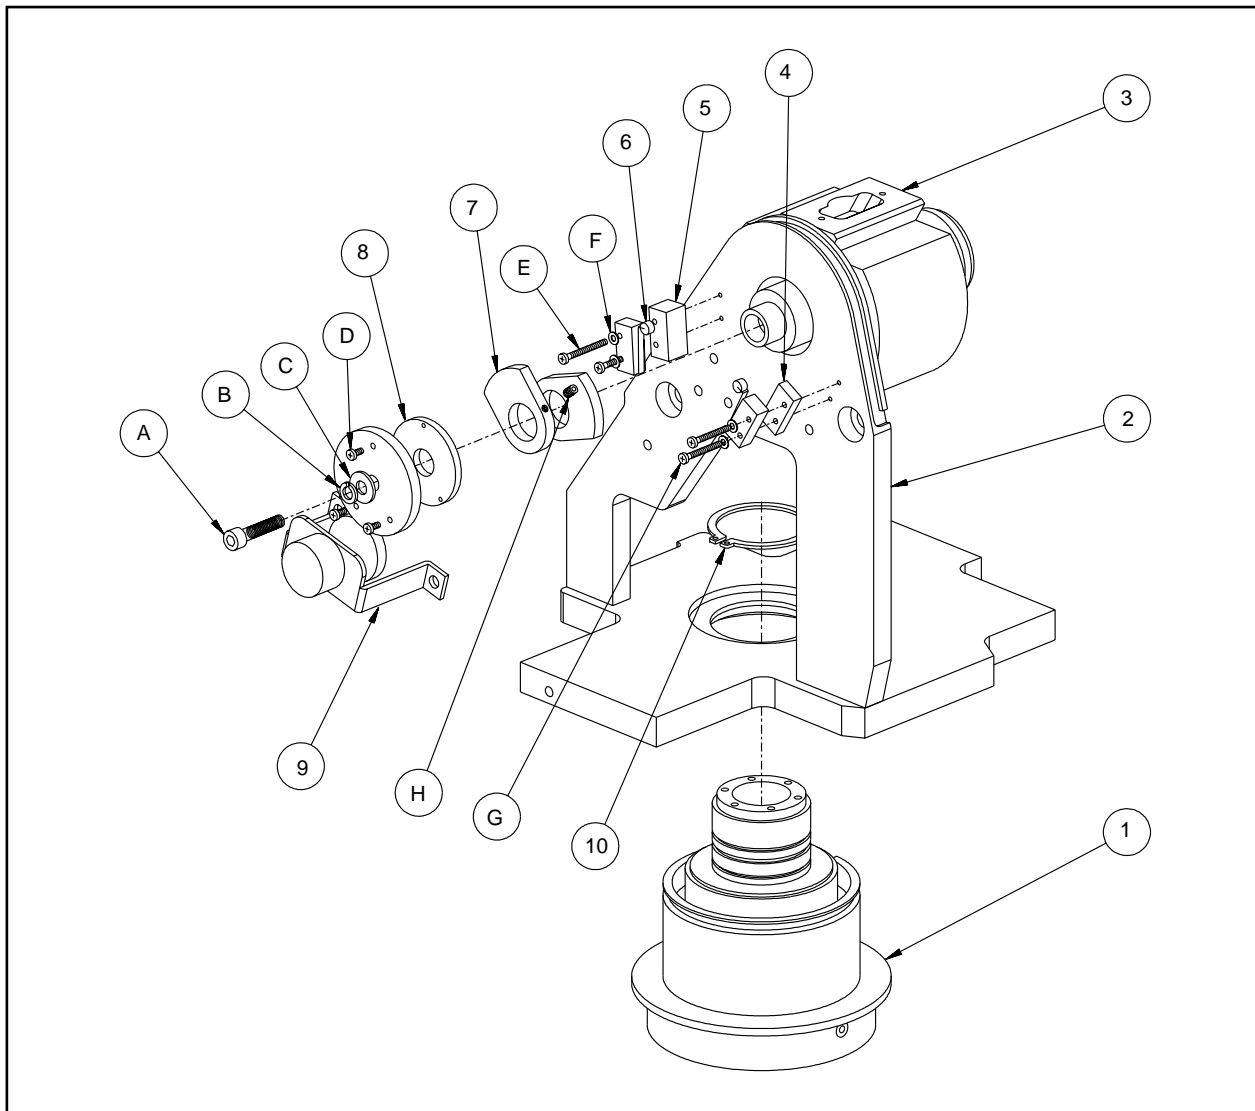

Figure 7. Tilt Limit Adjustment
Refer to Figure 7 for the location of the tilt limit stops (item 7). Turn the control unit on and tilt the unit to the desired up position.